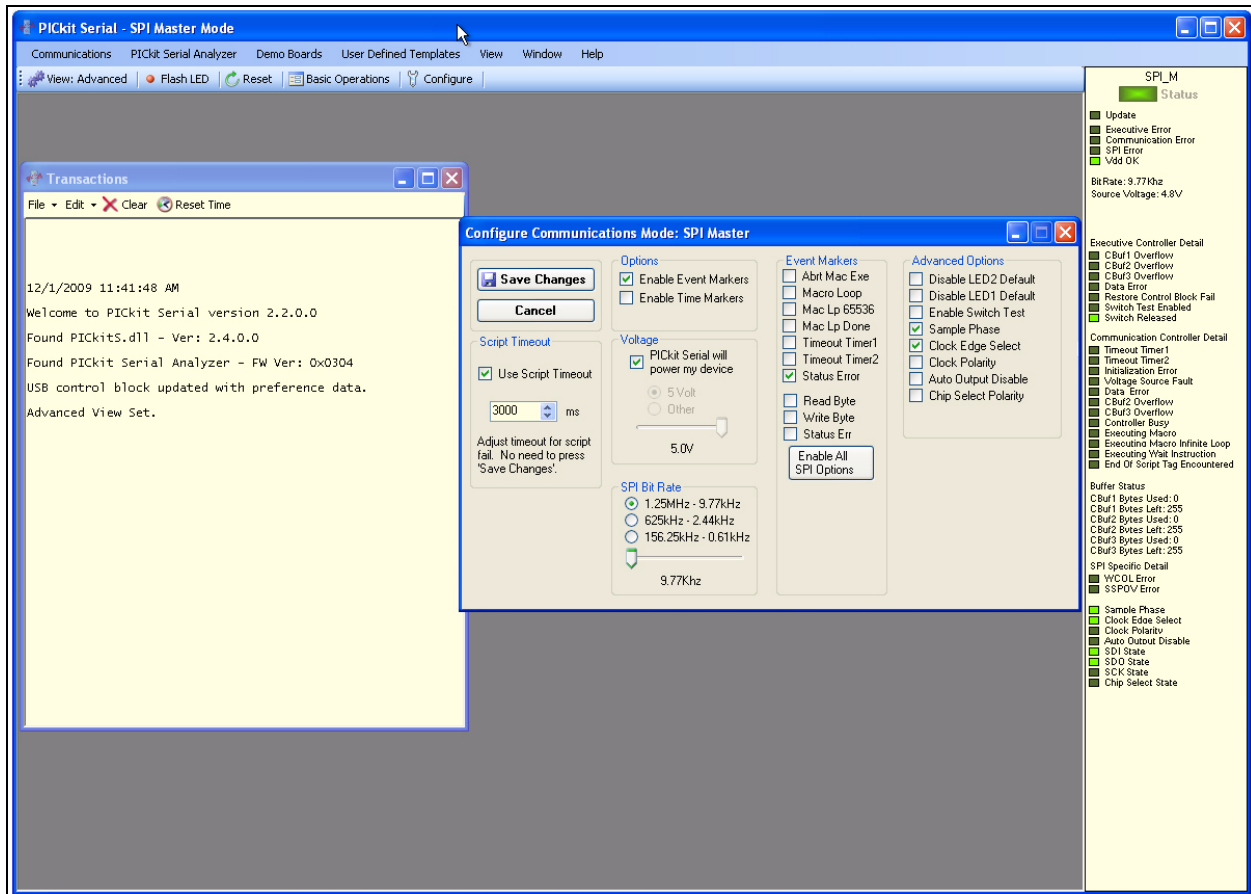

FIGURE 2-7: PICKit™ Serial Configure Communications Mode Window.
Figure 2-7 shows the Configure Communications Mode window. Ensure that your window options and settings are the same as this window, and then select the **Save Changes** button. The Configure Communications Mode window may now be closed.
6. Ensure that the Master SPI configuration is appropriately configured (see Figure 2-7).